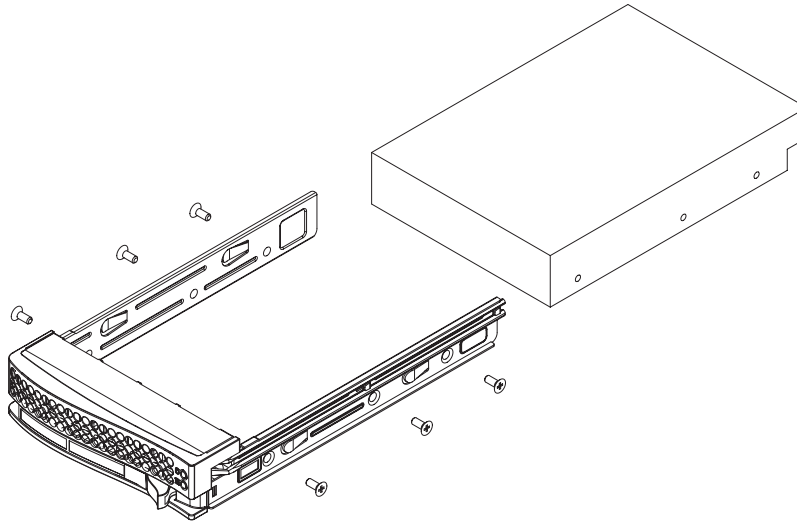

Figure 6-3 Mounting a Drive in a Carrier
2. Secure the drive to the carrier with four screws, as shown in Figure 6-3.